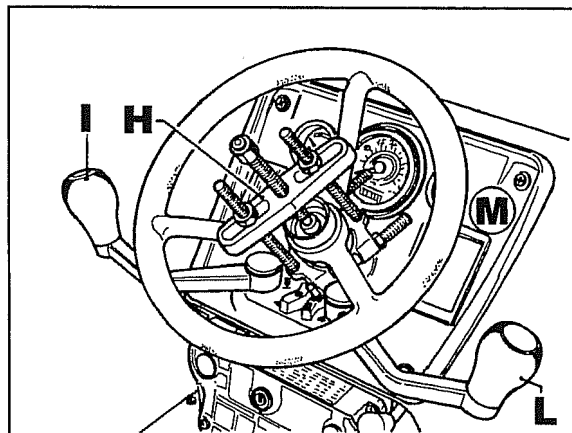

Fig. 57
- a. Use an extractor **H** as shown in Fig.57, to remove the steering wheel.
- b. Remove the gear range lever **I** and the gear change lever **L** and remove dashboard **M** (Fig.57).